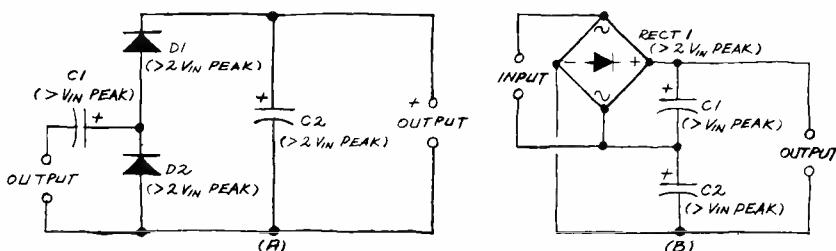

Fig. 2. Two different ways to make a voltage divider.
Figure 2 shows two other ways to make a voltage doubler. The cascade doubler (A) isn't as efficient or as well-regulated as either the traditional or bridge doubler, but it can easily be expanded to many stages. (Component voltage ratings are given in parentheses.) It's possible to obtain outputs of many thousands of volts from multi-stage cascade voltage multipliers. Figure 3 shows both a full-wave voltage tripler (A) and quadrupler (B).